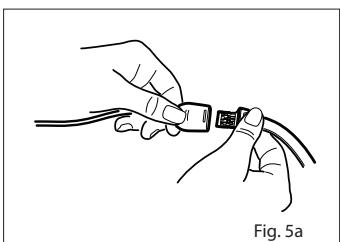

Fig. 5a
- Refer to Fig. 5a. Orient the sensor's connector tab so that the side with the "shiny" contacts is facing up. Orient the patient cable with the color bar and finger grips facing up.